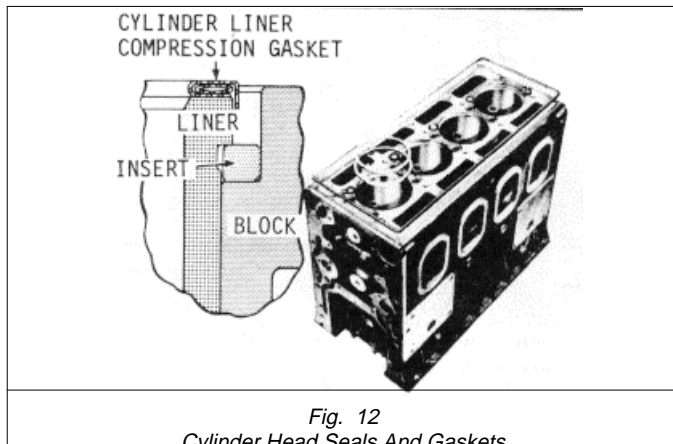

Fig. 12
- (1) Refer to Fig. 12 and install the water and oil seal rings and compression gaskets as follows: